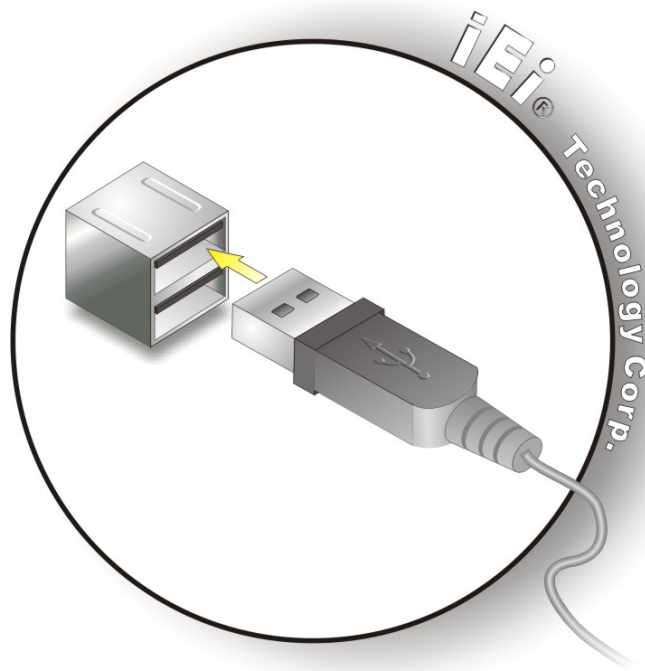

Figure 2-21: USB Device Connection
Step 2: **Align the connectors.** Align the USB device connector with one of the connectors on the bottom panel. See **Figure 2-21**.